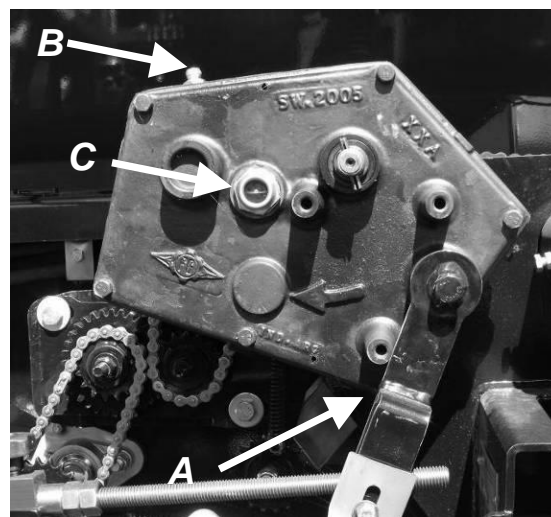

Figure 5
- ☞ The variable transmission [Figure 5] which drives the distribution system uses clear trans-hydraulic oil. Capacity: 1.75 liters.
To drain the oil; remove the drain plug [Figure 5, **A**] at the bottom of the transmission housing. To facilitate the flow, remove the filler plug [Figure 5, **B**]. Reinstall the drain plug and fill the transmission with clear trans-hydraulic oil to recommended level. A window indicates the oil level [Figure 5, **C**]. Check the oil level every day, fill as needed.